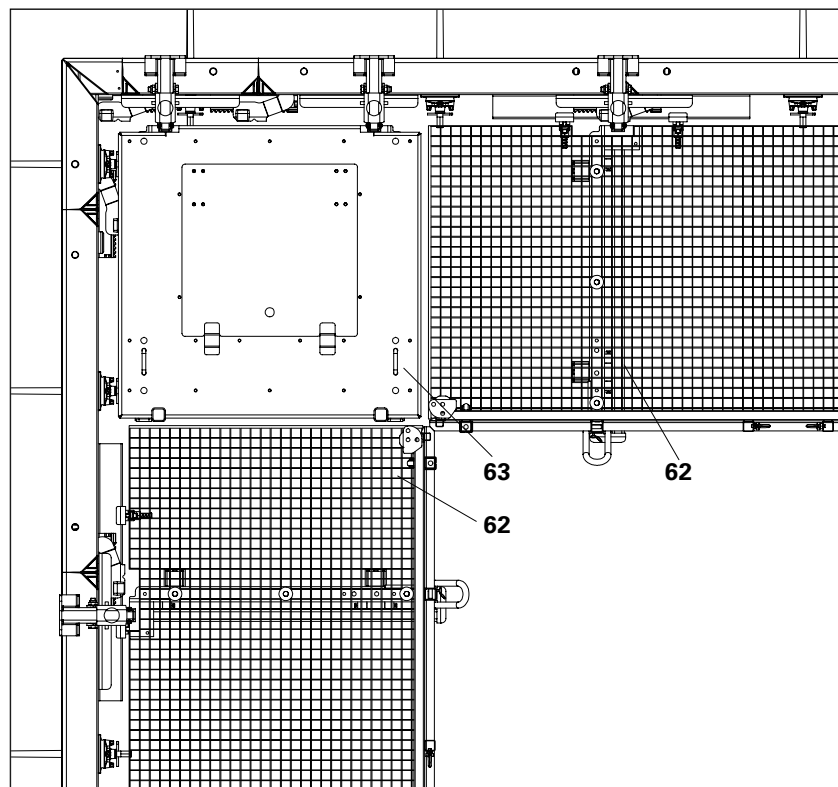

Fig. A13.18
Use the Concreting Platform Hatch MX 100 x 100 (63) for 90° corners on the internal formwork. Subsequently mount the Concreting Platform MX 100 x 240 (62) in both directions. (Fig. A13.18)